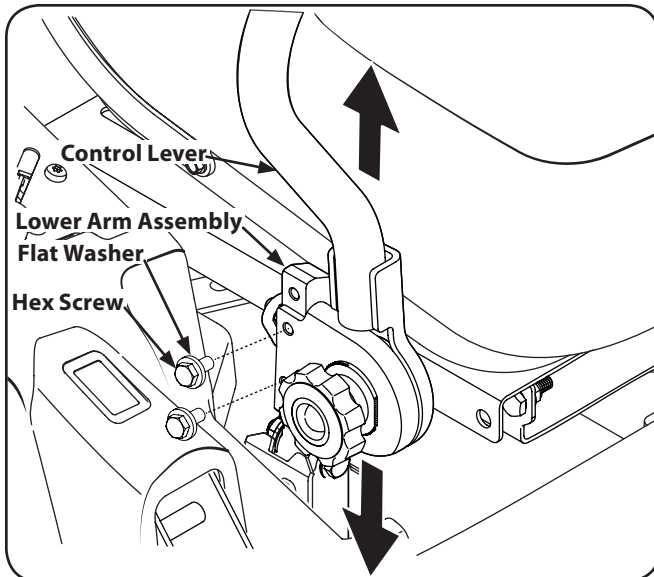

Figure 6-4
1. Remove the hex screws and flat washers securing the control lever to the lower arm assembly. Refer to Figure 6-4.
1. Loosen the control lever knobs on the side of the drive control levers. See Figure 6-4.
3. Secure in place by tightening the control lever knob. See Figure 6-4.